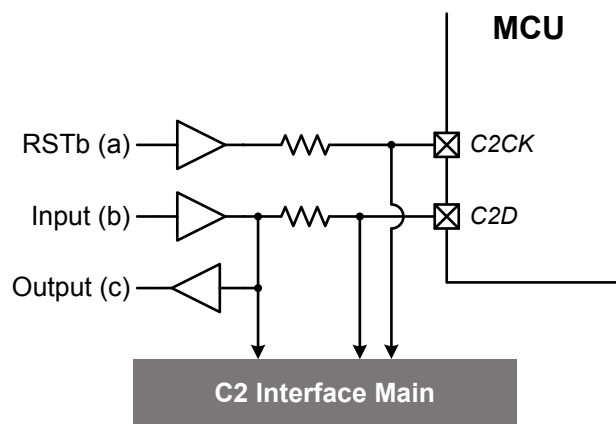

Figure 26.1. Typical C2 Pin Sharing
- Changed "master" to "main" in Figure 26.1 Typical C2 Pin Sharing on page 356.